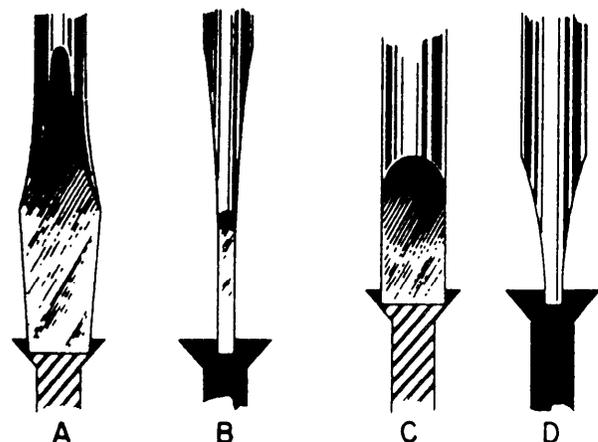

Figure 5-26.—Shapes of screwdrivers when properly dressed.
• **Screwdriver tips:** Figure 5-26, views A and C, are the front views of a properly dressed common
Next, grind the faces of the blade so they are parallel at the tip as shown in views B and D of figure 5-26. The thickness of the blade at the tip should be such that the tip will just enter the slot of the screw you intend to turn. With such a tip thickness, and the sides parallel, the screwdriver will have the least tendency to climb out of the screw slot when the screw is being turned. When grinding, do not let the tip get too hot or it will be softened.